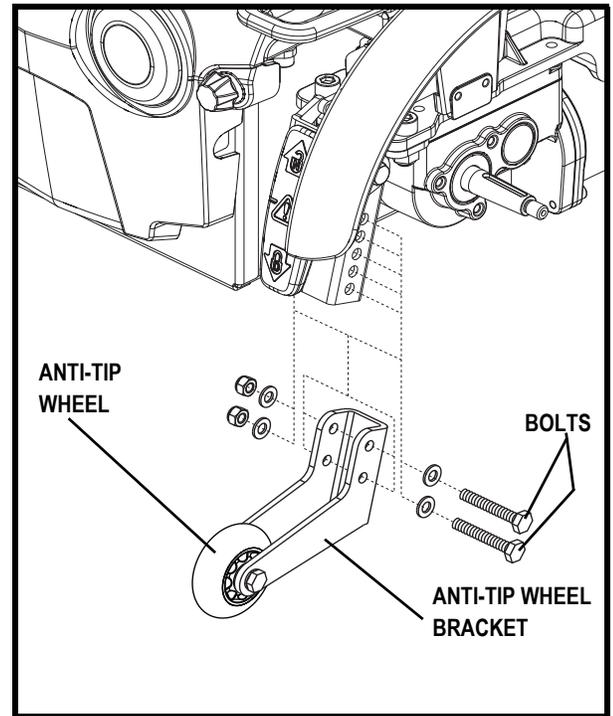

Figure 21. Anti-Tip Wheel Assembly
1. Remove both bolts from the anti-tip wheel bracket. See **figure 21**.
2. Raise or lower the anti-tip wheel in 1,25-cm (0,5-in.) increments by aligning the appropriate adjustment holes. See **figure 21**.